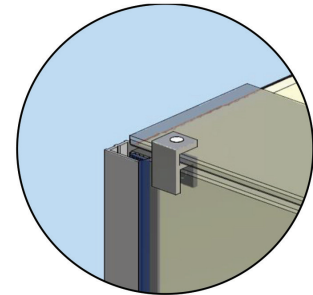

FIG 19.
- Fasten chrome brackets to overhead brace and sit in place above door gap (FIG 19).